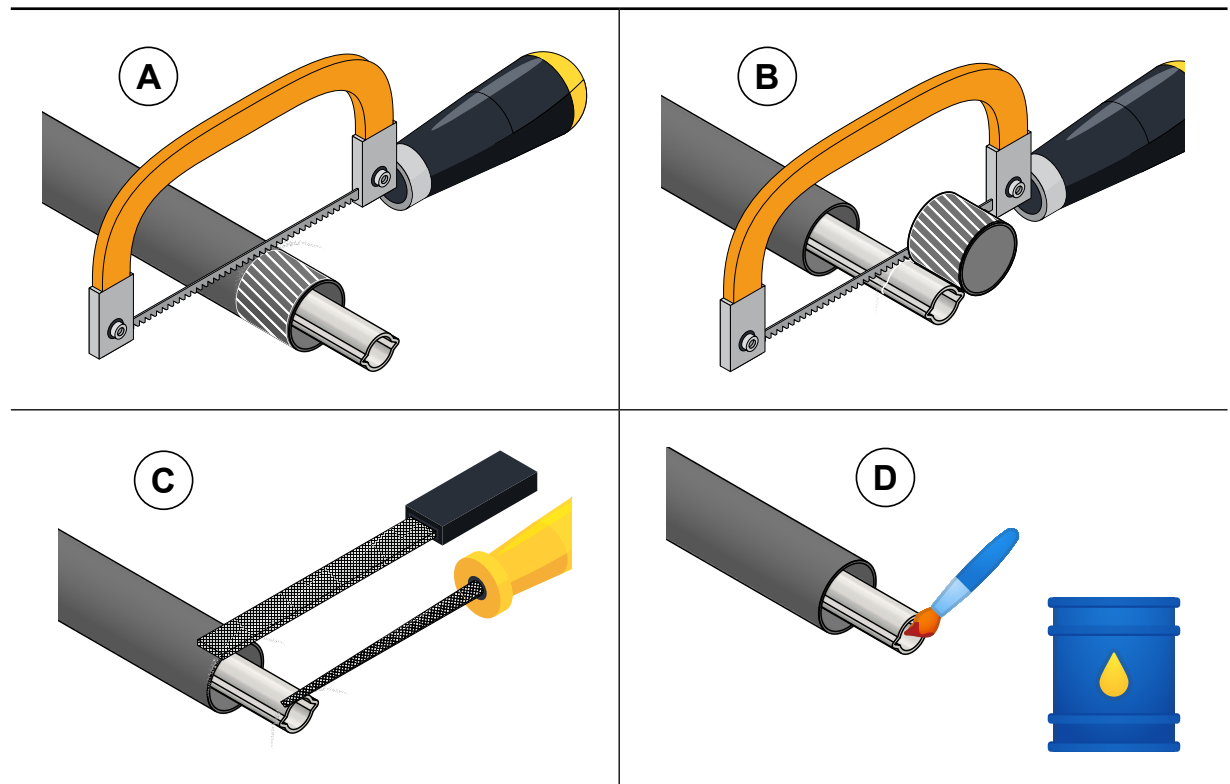

Fig. 23 Cardan shaft - Cardan shaft reduction
- Shorten the sliding tubes to the required length (Fig.23 det. A and B).
- Clean metal irregularities due to cutting (Fig.23 det. C).
- Finally, lubricate the inside of the outer tube (Fig.23 det. D).